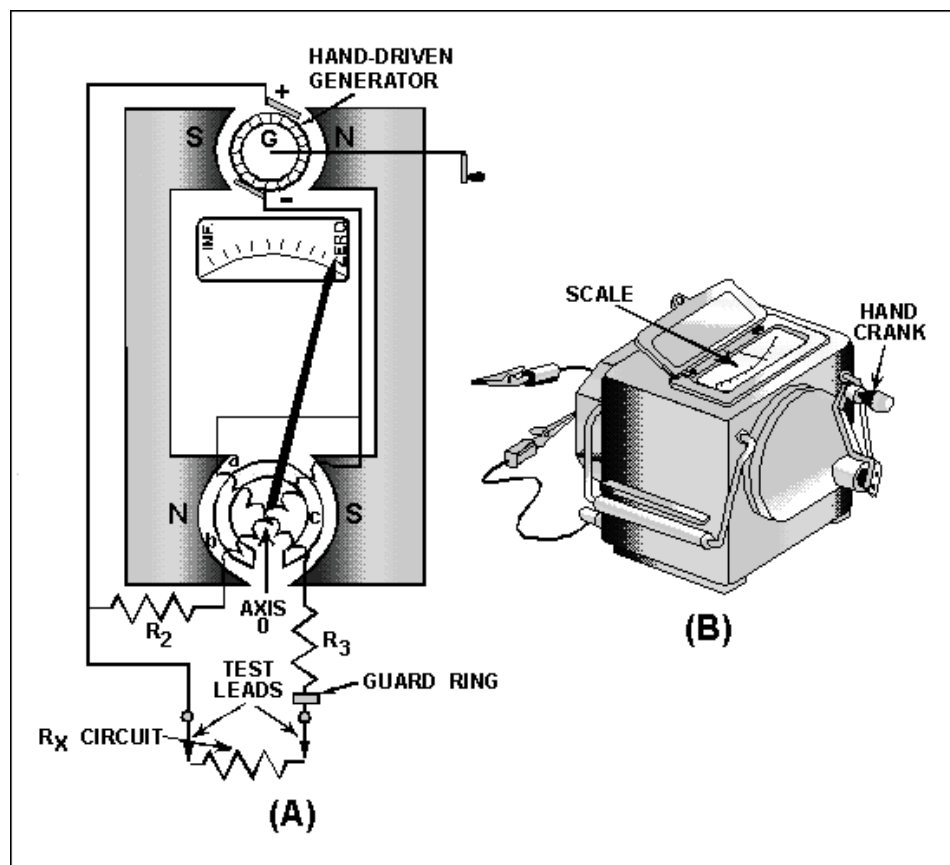

Figure 1-36.—A megger internal circuit.
An instrument called a **MEGOHMMETER (MEGGER)** is used for these tests. The megger (fig. 1-36) is a portable instrument consisting of two primary elements: (1) a hand-driven dc generator, G , which supplies the high voltage for making the measurement, and (2) the instrument portion, which indicates the value of the resistance being measured. The instrument portion is of the opposed-coil type, as shown in figure 1-36(A). Coils a and b are mounted on the movable member c with a fixed relationship to each other, and are free to turn as a unit in a magnetic field. Coil b tends to move the pointer counterclockwise, and coil a tends to move the pointer clockwise.
The external view of one type of megger is shown in figure 1-36(B).